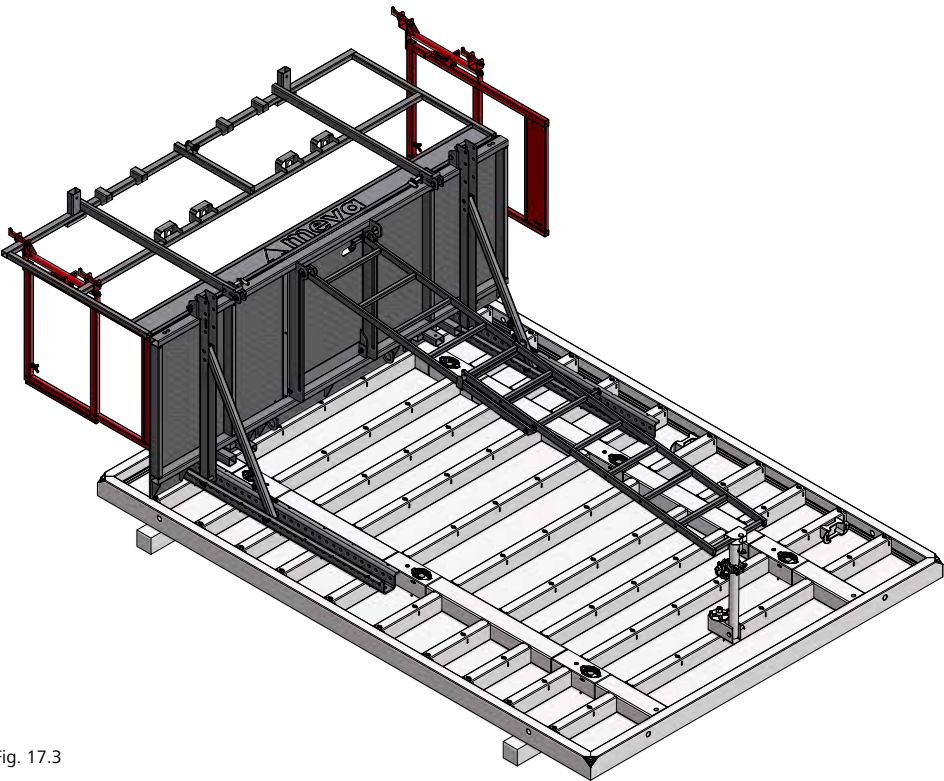

Fig. 17.3
- 16. Attach the MIS side railing to the rear railing frame using the two integrated wedges (Fig 17.3).